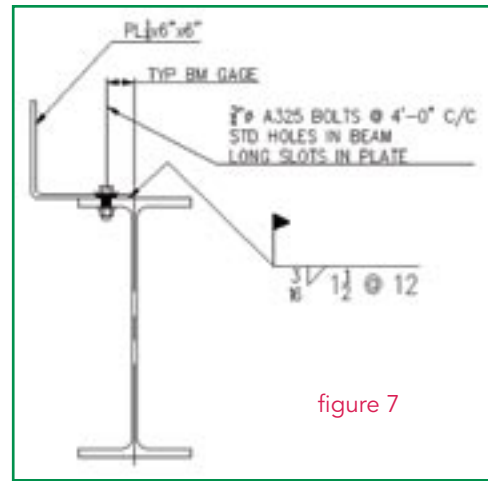

figure 7
- Tolerances generally mean that shop attachment of perimeter angles or bent plates is not a viable approach. Instead, consider the use of angles or plates that are temporarily shop bolted with slotted holes that provide for the necessary field adjustment. If required, field welding can be performed for the final connection after field adjustment. (See Figure 7.)